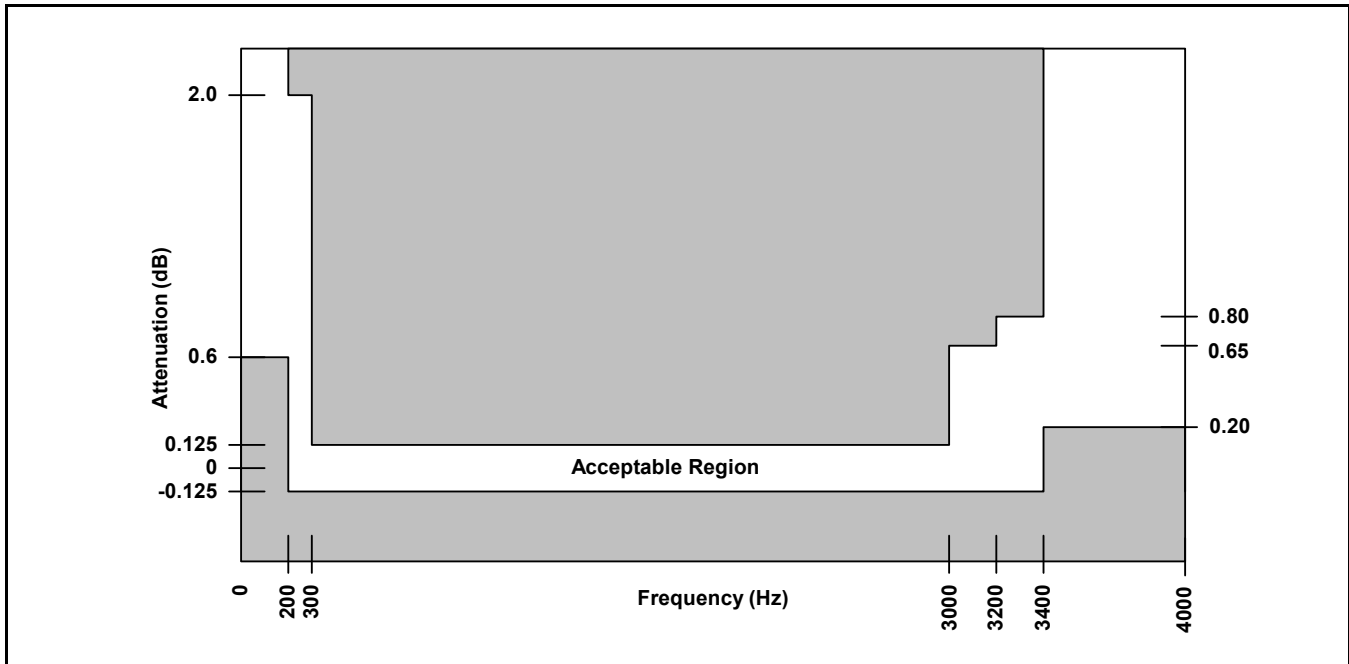
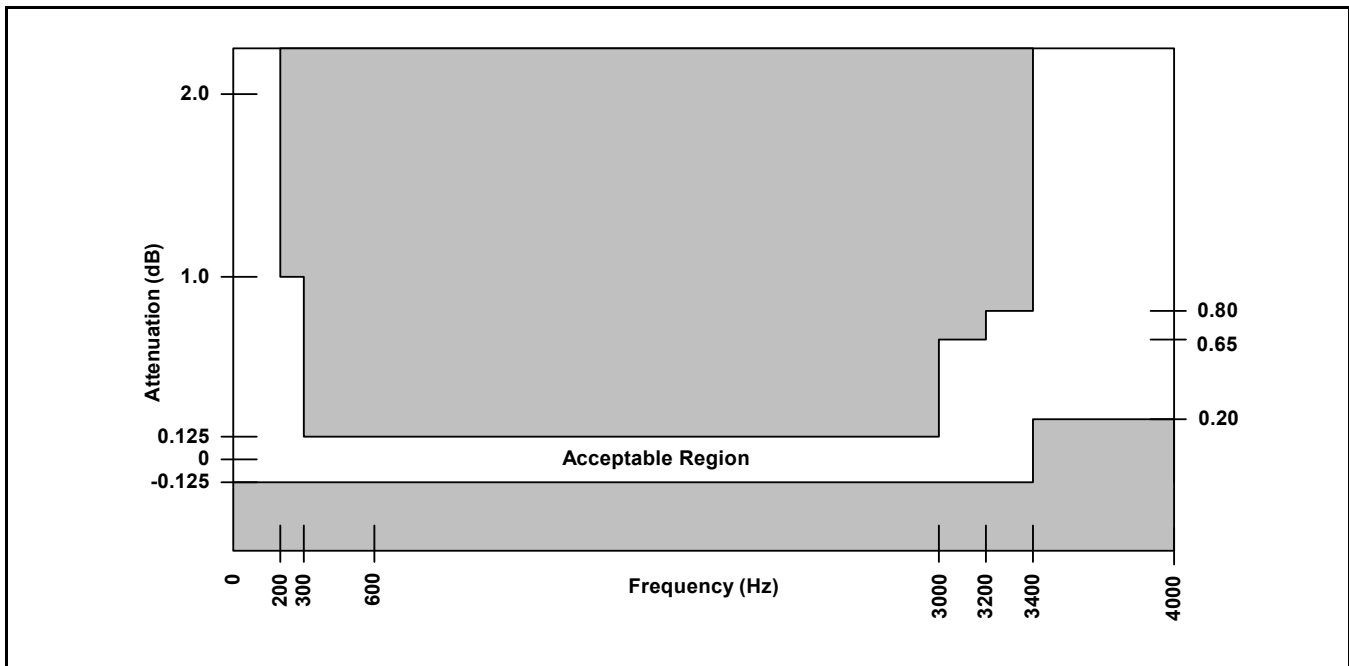

Figure 22 - Transmit Path Attenuation vs. Frequency
Figure 23 - Receive Path Attenuation vs. Frequency
- See Figure 22 and Figure 23.*
The signal attenuation in either path is nominally independent of the frequency. The deviations from nominal attenuation will stay within the limits shown in Figure 22 and Figure 23. The reference frequency is 1014 Hz and the signal level is -10 dBm0.